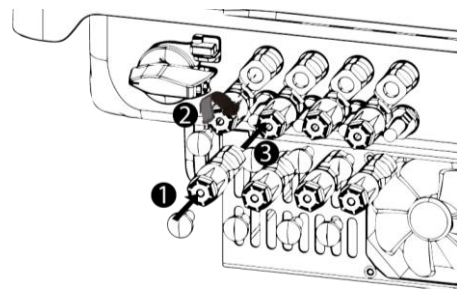

Fig. 43: Insert DC plug connection
- 4 Remove wires and insert DC contact plug with equipped protective caps. (See Fig. 43.)